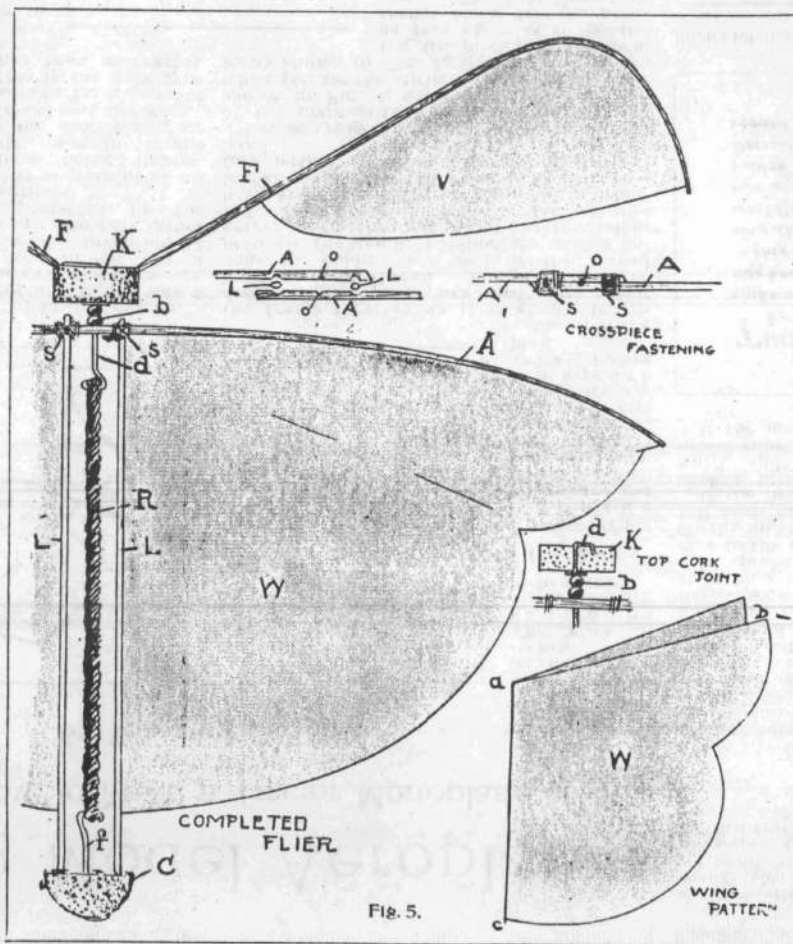

Fig. 5.
**B**EFORE starting the construction of a real gliding aeroplane with power plant, it will be a good scheme to build up one of the earlier types of flying machines—possibly the earliest model which ever flew by actual power. This is shown in Fig. 5, and the main part of this is the power plant. The drawing shows the dimensions which you will need to follow, and there is very little to tell concerning its construction except follow the shapes of the drawing exactly.
The first part to make is the power plant shown in Fig. 5. First take a cork about one inch in diameter and cut it in two, down the middle. Then slice off the largest end from it, making this about one-quarter of an inch thick. One piece is shown at C in Fig. 5. Next cut out of straight grain spruce or pine wood, two sticks six inches long and about as big as the lead in an ordinary lead pencil. These are made square.
in Fig. 5 and be sure that both pieces curve the same. Then cut two pieces of tissue paper just the shape of V in Fig. 5, making sure the two papers are just the same. You can cut them both out at once, if you wish, using a folded paper. Being sure that the curved sticks F fit the curve of this paper, smear these sticks with liquid glue and lay them down on the paper vanes V at the proper position and press them in place. When dry, these form the blades of the propeller, and they obtain their slant largely through the slack of the paper, as these curved pieces set practically verticle when the toy is not in action.